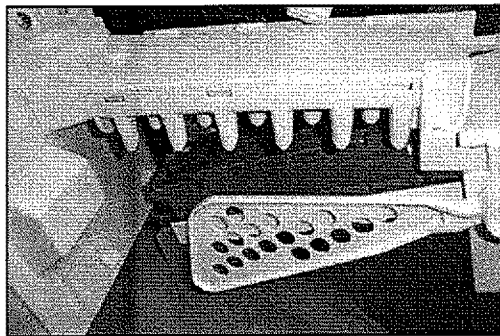

FIGURE 9
11. Remove ice maker from impinger assembly. See Figure 9.